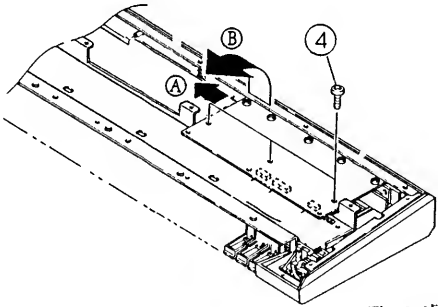

Fig.3.(図-3)
2) リヤパネル側の③ネジ6ヶをゆるめて外します。
3) Loosen the 3 installation screws ④ on the MAIN board and then remove them from the keyboard angle.
Remove the wiring (12 pins + 14 pins) and the 2 pins on the MAIN board in the direction of arrow ① shown in Fig.3, and then place the MAIN board facing up toward the keyboard side in the direction of arrow ② so the part surface can be easily seen.
(Fig.3.)